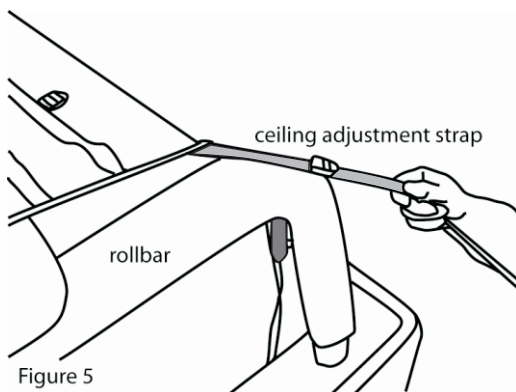

Figure 5
**Step 9.** Locate the ceiling adjustment straps (at rear corners on ceiling panel). Gently pull the strap over the rollbar, and around the seatbelt stud (toward the inside) and back up to the strap adjustment buckle. Tighten snug, and perform same procedure on the other side. Check top for evenness from side to side. See Figures 5, 6, 7, & 8. **NOTE: if there is no rear seat belt assembly installed in the vehicle, use the included bolts and spacers to allow installation of the straps.**